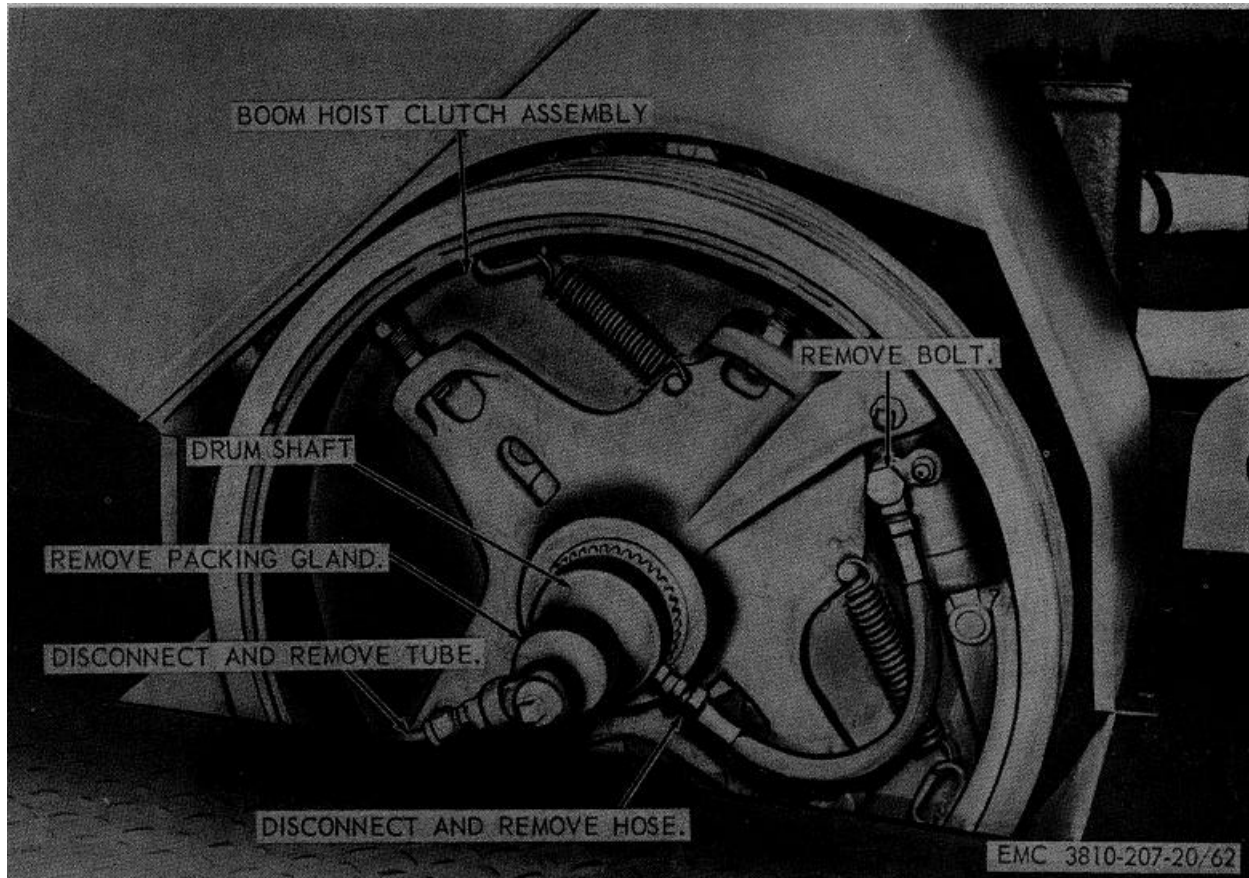

Figure 62. Packing gland, removal and installation.
a. Removal. Remove the shaft packing gland as instructed on figure 62.
- (1) Install the shaft packing gland as illustrated on figure 62.
- (2) Bleed packing gland and lines (par. 133).